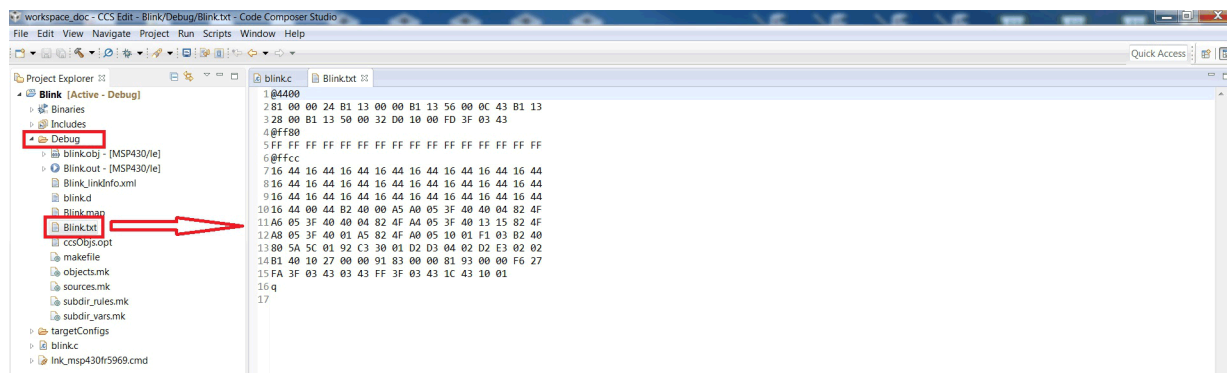

Figure 5. CCS – Output File
5. Build the project. The file **Blink.txt** is generated in the **Debug** or **Release** folder, depending on the build option that been selected (see Figure 5).